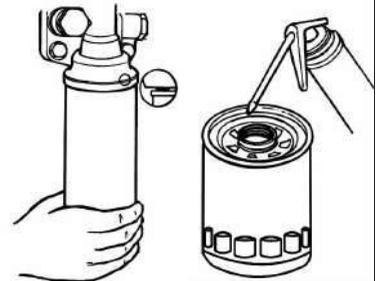

Fig 5-36 Below Type Oil Pump Installation
4.4 According to purpose and installation position, choose single stage oil filter with paper element or spin-on oil filter. When installing filter element, pay attention to gasket. Coat some oil on sealing ring, tighten bolts well (see Fig 5-36).